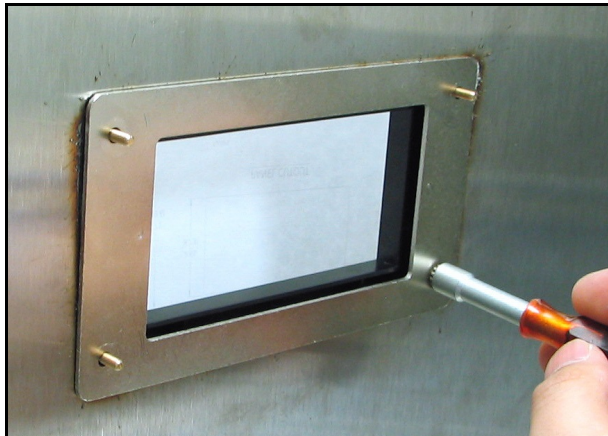
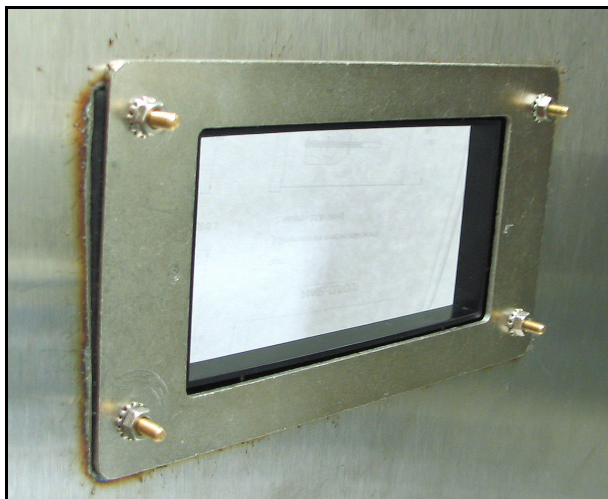

Figure 19: Securing the Assembly to the Panel
Figure 20: Plate Assembly Mounting Complete
4. Apply nuts to the four screws and secure the assembly to the panel (see Figure 19 and Figure 20). Use a feeler gauge behind the gasket, check the compression, and tighten the nuts until the gap is  $0.032" \pm 0.002"$ .